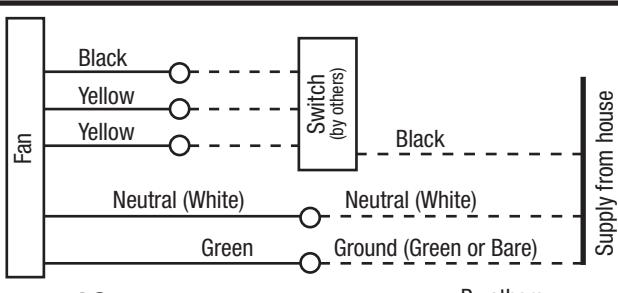

Figure 10
- 2a. **Intermittent Ventilation:** For two speed fans wired for intermittent ventilation with a standard duplex toggle switch (such as Leviton 5224-2W not included). Connect the White wire of the fan to the White (Neutral) wire from the power source. Connect the ground wire from the fan to the ground wire from the power source. Properly ground the switches. Connect the black wire from the supply to one side of the top switch. Connect the black wire from the fan to the other side of the top switch. Connect 1 yellow wire from the fan to each side of the bottom switch. The top switch turns the fan On & Off, the bottom switch changes speed between high and low (**Figure 10**).